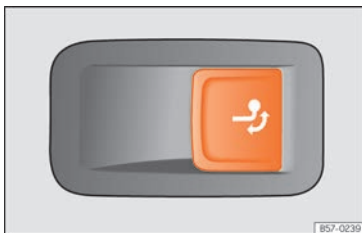

Fig. 210 Right side of the luggage compartment: button to unlock the tow hitch.
- Pull the >>> Fig. 210 button briefly. The tow hook unlocks electrically and automatically turns outwards. The button's control lamp flashes.
- Pull the >>> Fig. 210 button briefly. The tow hook unlocks electrically.
- Never press the button >>> Fig. 210 when there is a trailer hooked to the vehicle or when a carrier system or other accessories are mounted on the tow hook.